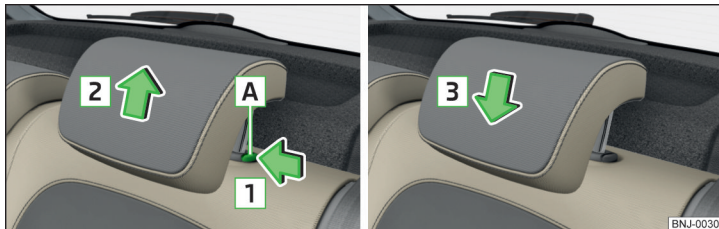

Fig. 74 Removing/installing the headrest
- ▶ Press locking button **A** in the direction of arrow **1**, and pull out the head restraint in the direction of arrow **2** » Fig. 74.